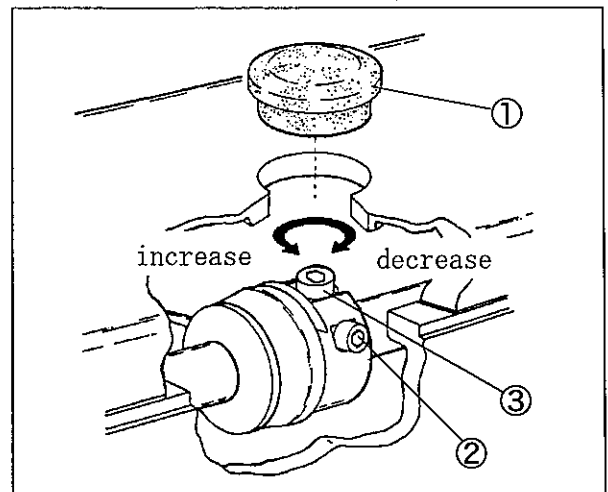

Fig. 76
- (1) Remove the top cover seal plug ①.
- (2) Rotate the handwheel until the screw ② of the upper feed roller regulator comes right above. Loosen the screw ② with a hexagon socket screwdriver.
- (3) Rotate the handwheel until the adjusting screw ③ comes right above. (Fig. 76)
- (4) Turn the adjusting screw ③ to adjust the feeding amount.
- (5) Tighten the screw ② with a tightening torque of 2.5 N·m securely.